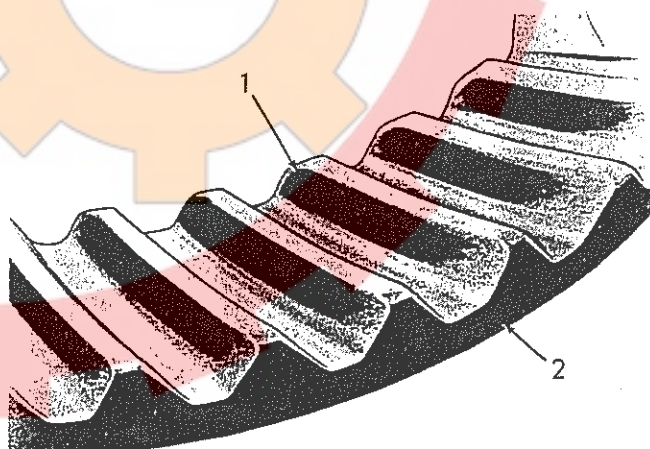

Fig. 25 Satisfactory Tooth Contact - Gears Loaded (T-31449)
- d. Check tooth contact pattern. Paint approximately 12 bevel gear teeth with marking compound or bluing and turn transmission pinion; tooth contact pattern will show plainly on bevel gear teeth. Area of contact (no load) must favor toe of gear tooth, extend approximately 1/2 of tooth length toward heel, and be centered between top and bottom of tooth, Fig. 24. The area of contact when gears are loaded should increase in length as shown in Fig. 25.